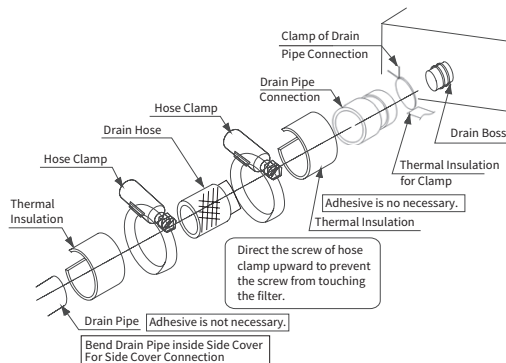

Fig.6.1 Connecting Drain Piping
- Tighten the screw for the hose clamp in order to hold the hose around the drain connection without any leakage of drain water as shown in Fig.6.1.
- Insulate the drain hose around the hose clamp to prevent any condensation as shown in Fig. 6.1.